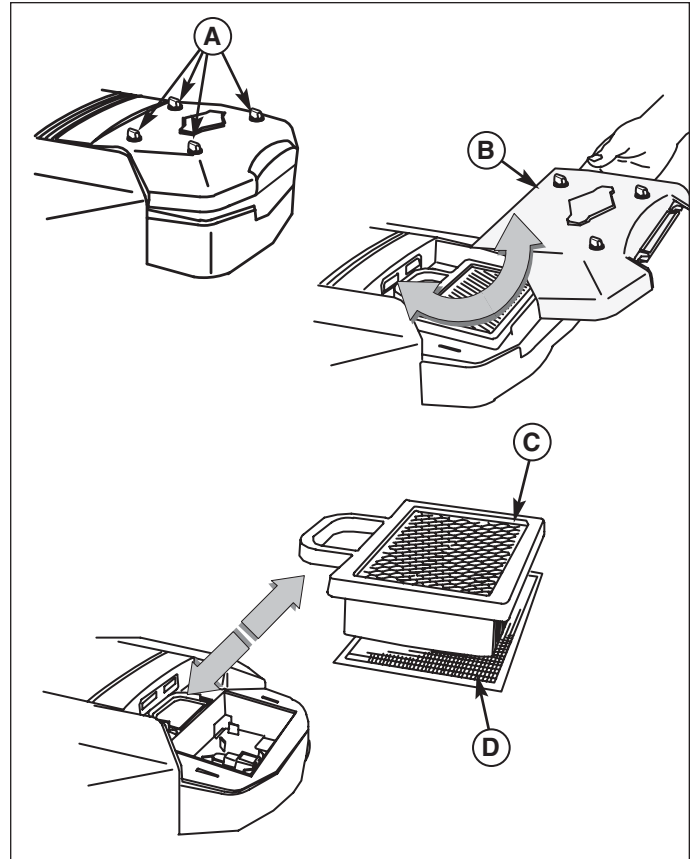

Figure 26. Air Filter Assembly - Briggs & Stratton Twin Cylinder Models
1. Unscrew the four knobs (A, Figure 26) by turning counter clockwise.
2. Remove the cover (B). Remove the filter (C) and pre-cleaner (D).
3. Install the pre-cleaner (D) with the mesh side up. Install the filter (C) as shown.
4. Install the cover (B) making sure the tabs are inserted into their slots. Secure by turning screws clockwise until snug.